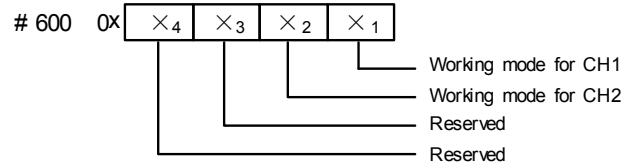

Figure 2-1 Mode setting element vs. channel
6. BFM#600: channel mode selection, used to set the working modes of CH1 ~ CH2. See Figure 2-1 for their correspondence.